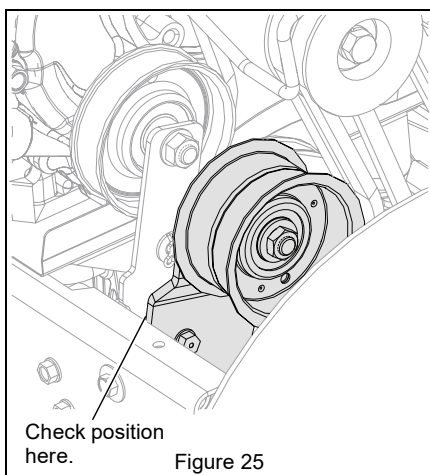

Figure 25
5. With the attachment clutch disengaged, make sure auger idler arm lightly touches the frame. See Figure 25.